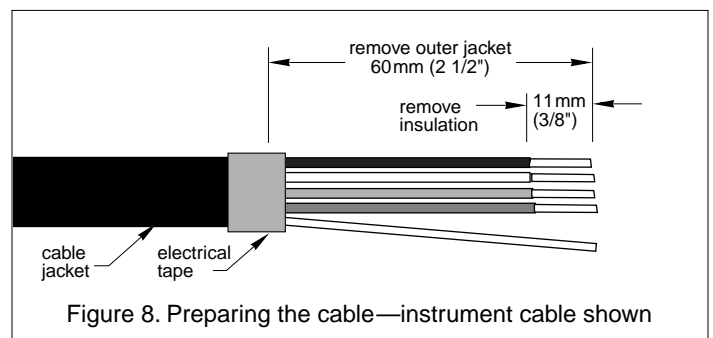

Figure 8. Preparing the cable—instrument cable shown
5. Strip 60mm (2-1/2") of the outer jacket and foil shielding from the cut ends of the power and instrument cables (see Figure 8).